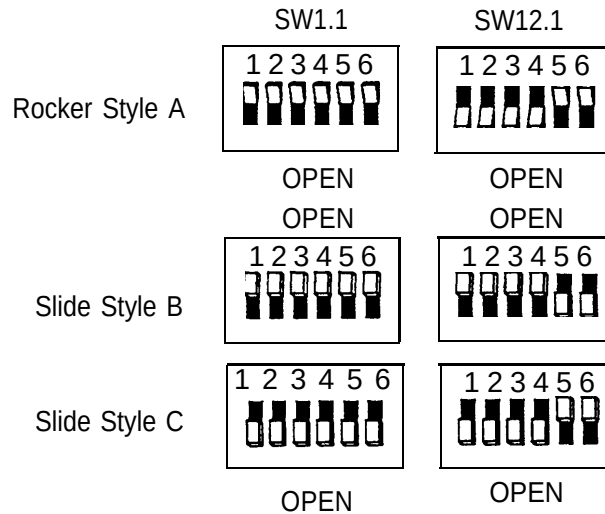

Figure 2-2. Factory Switch Configuration
- If the board has rocker switches, it is always configuration A as shown in Figure 2-2.
- If the board has slide switches, it will have one of the configurations (B or C) shown in Figure 2-2.
1. Set the switches to match configuration B in Figure 2-2.
5. Open the case and change the switches to match configuration C in Figure 2-2. (Be sure to do a shutdown first and then reboot.)